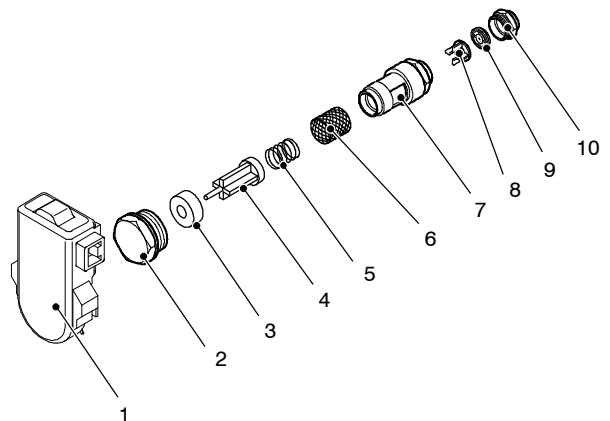

Fig. 60
When the flow rate through the d.h.w. circuit reaches about 2,5 litres/min', the float 4 (Fig. 60) is drawn towards the right. The resulting magnetic field of ring 3 increases and reaches the flow switch sensor 1. The sensor generates an electrical signal that switches the boiler d.h.w. operation ON.
### 15.2 Nomenclature and location of parts (Fig. 60)
- 4 Unscrew the plug 2 (Fig. 60) and extract the flow switch group.
- 5 To remove the filter from the flow switch group separate the body 7 from the plug 2 (Fig. 60) by unscrewing it.
**Attention: the ring 3 (Fig. 60) has a magnetic polarity and must be correctly coupled with the spindle of the float 4.**
- 2 Unscrew the threaded ring 10 (Fig. 60) and remove it from the body 7.